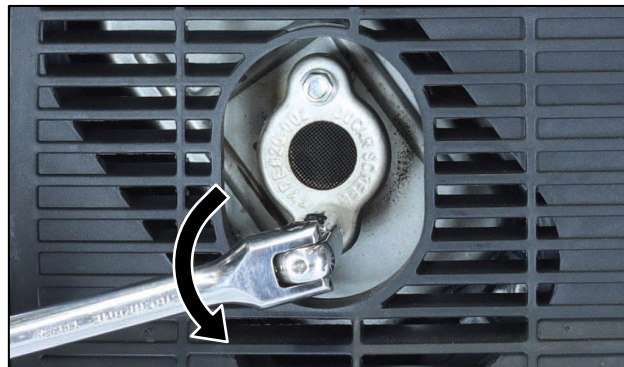

Figure 32 Remove the Spark Arrestor Clamp
1. Remove the spark arrestor clamp by undoing the two bolts affixing it to the muffler (see Figure 32).